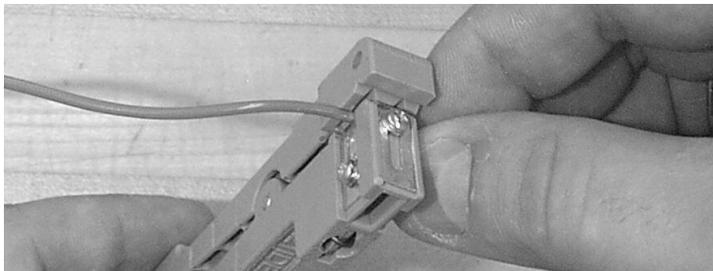

Figure 12 – Score the buffer tubes.
4.13 Consult the splice closure instructions to determine the length of fiber that must be exposed. Use a buffer tube stripper to score the buffer tubes (Figure 12) at the required length. Make only one revolution around the tube. The tube should be scored rather than cut.